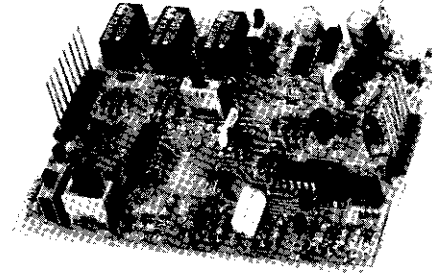

figure 1. 9961A Signaling Converter FXS subassembly
1.01 The 9961A Signaling Converter FXS (foreign exchange, station) subassembly (figure 1) provides conversion between E and M signaling and loop signaling conventionally used at the station end of a foreign exchange (FX) or off-premise extension (OPX) circuit. It may also be used at both ends of an E and M facility to provide automatic ringdown operation. Specifically, the 9961A converts E-lead signals to ringing and tip-ground supervision toward the station and converts loop supervisory and dialing signals originating at the station to M-lead output.